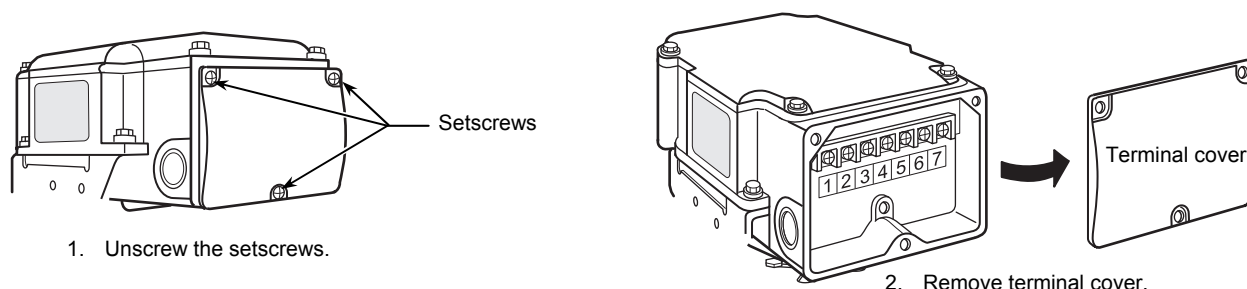

Figure 7. Terminal cover removal
- 2) Unscrew the 3 setscrews (M4 × 10) of the terminal cover and remove the terminal cover, as shown in Fig. 7.